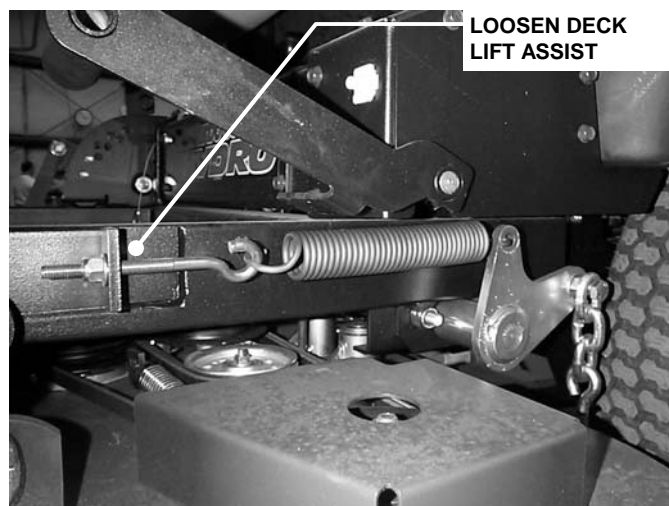

FIGURE 4.9
1. Move deck lift lever and set the mower deck to the highest cutting position. See Figure 4.9.
2. **IMPORTANT – STORED ENERGY.** Relieve tension on deck lift assist spring by backing off nut on eyebolt. Failure to relieve tension could result in personal injury. See Figure 4.9.
4. Move deck lift lever and set the mower deck to a lower cutting position until deck rests on wooden blocks. Position the deck to where there is no tension on the deck hanger chains. See Figure 4.9.
10. Reinstall deck lift assist spring. Place deck in highest cutting position. Tighten nut on eyebolt until 1 1/4" of threads protrude past end of nut. See Figure 4.9.